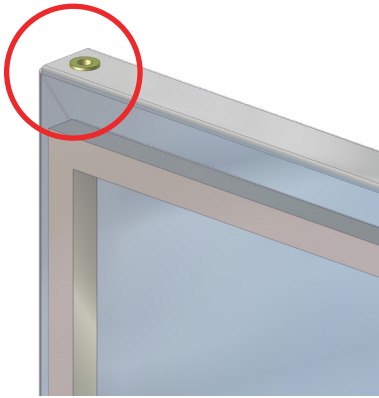

Fig. 183: Door Hinge Socket
8. Look at the socket located on both the top and bottom of the door (circled in red in Fig. 183). The pins of the door hinges will insert into these. Fit the bottom socket of the door onto the bottom hinge pin. Support the door on its bottom hinge while you prepare to affix the door to the top hinge.